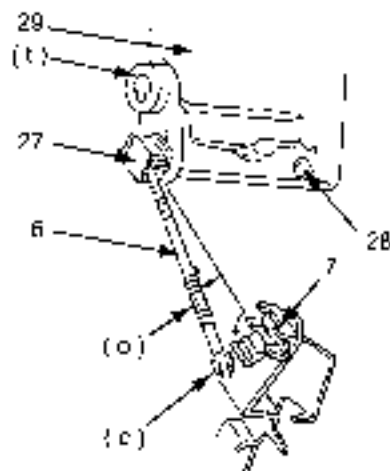

Figure-12
- Turn the power On and set to the **AgAir Blow** mode, one green and one red Operation Panel LED will glow. (Beware that the lever (t) rotates.) Wait for 10 seconds, and then check to see if the lever (t) is at the location shown in Figure-12.
- Turn OFF the power and fix the rod (6) as explained in w of the previous section.